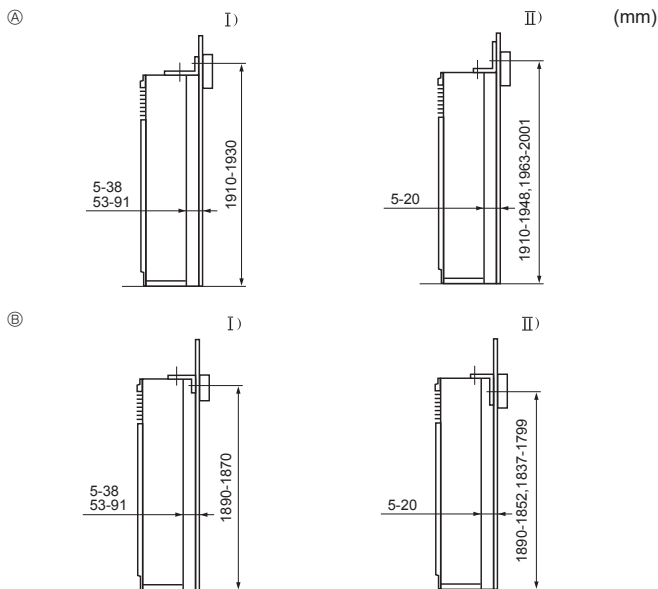

Fig. 3-3
- ① Tip-over prevention bracket
The tip-over prevention bracket ① is set on the top surface of the unit. Remove the tapping screws ②, and then reinstall the bracket, as shown in the illustration. For the proper installation distances, see Fig. 3-3.
- Ⓔ Remove the screw ⑩ and then pull the grill forward to remove it.
3.3. Mounting the tip-over prevention bracket (Fig. 3-3)